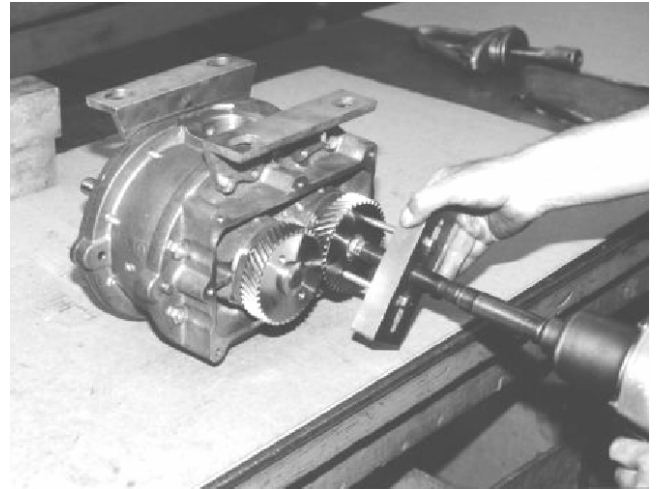

Figure 7. Pulling Drive Gear With Bar Puller.
- d. Use puller to remove drive gear. A bar puller or jack screws can be used. Refer to Figure 7 below.
- g. Remove eight (8) cap screws. [Item 14].